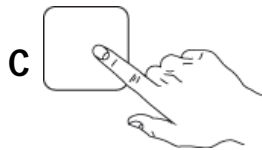

Fig.16
- 5- Press button "C" start washing cycle. (Fig.16)